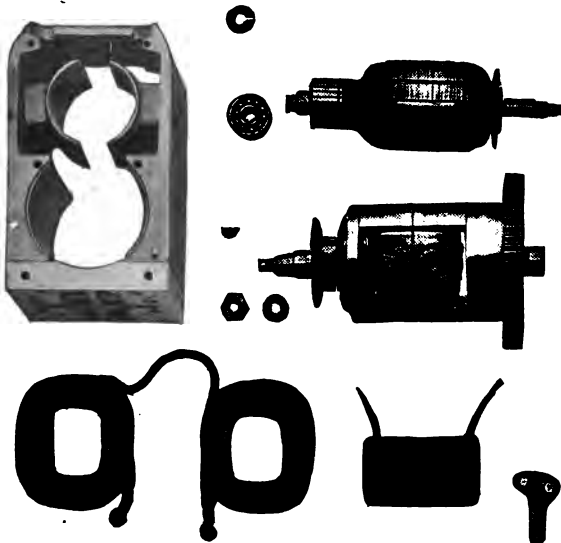

Fig. 51. Parts of Splitdorf Mag-Generator
*Magneto Generators.* These generating machines — the Splitdorf type shown in Fig. 50 is used on the Indian—are a unique conception and apparently have not been influenced by automobile practice, for the instruments usually combine a high-tension magneto and a low-tension generator. This combination makes a single-unit machine mechanically, but a double-unit machine electrically, there being two separate armatures, as shown in Fig. 51, the same field winding exciting both fields. In a way, it is wrong to speak of this as partly a magneto, because the term magneto implies the use of permanent magnets for the production of the magnetic field. The armature, however, is of the regular magneto type and delivers a high-tension current to the spark plug. The generator armature is wound so as to deliver about three amperes of current at thirty miles per hour, charging a 6-volt battery. The above description covers, in general, the Splitdorf system.